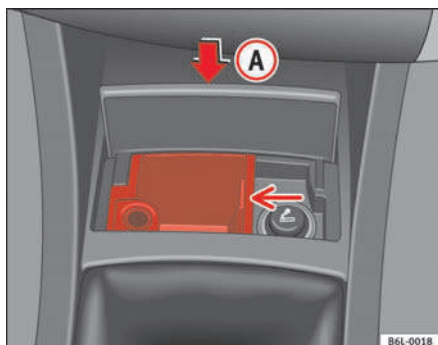

Fig. 82
- Press the lower part of the ashtray cover **A** ⇒ fig. 82 and it will open automatically with a spring action.